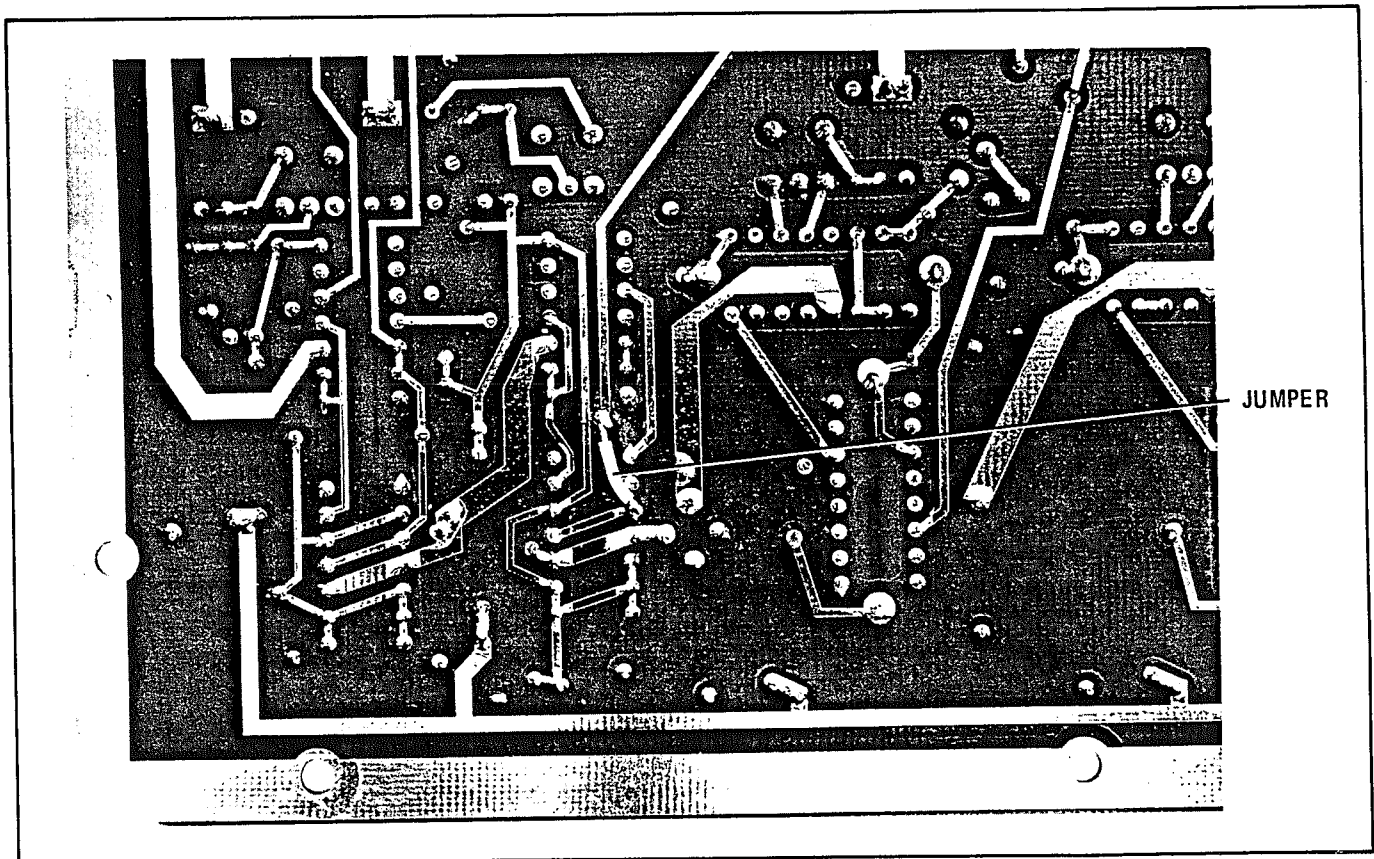

Figure 7-11. A10A2 RF Divider Assembly Modification
7-49. On instruments with serial number prefix 1313A and below, subharmonic rejection can be improved if the fourth RF divider is wired so that it is off when the RF output is taken from the third divider. Refer to Figure 7-11 and Service Sheet 11 and proceed as follows:
5. Solder a 1/2-inch length of insulated wire between pin 3 of U18 and the end of R16 (5.11 k $\Omega$ ) that is nearest U18. Refer to Figure 7-11.